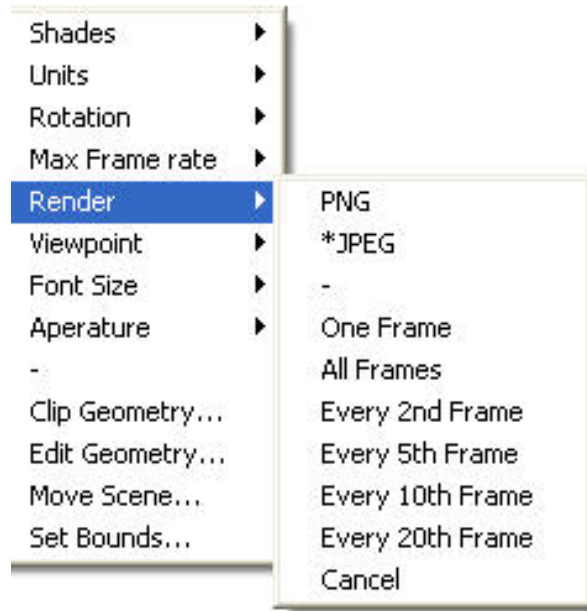

Figure 23: Render Menu
The render menu, illustrated in Figure 23, allows one to create PNG or JPEG image files of the currently displayed scene. The graphics library, GD 2.0.7, was used to create the rendered versions. GD 1.0 is documented in reference [13, Appendix 4]. GD 2.0.7 now creates images using "full color" allowing for more realistic scene representations eliminating the color banding that occurred with the previous version because of the limited number (256) of colors used to represent images. Due to patent disputes, GD 2.0.7 has dropped support for the GIF file format and uses JPEG or PNG instead.